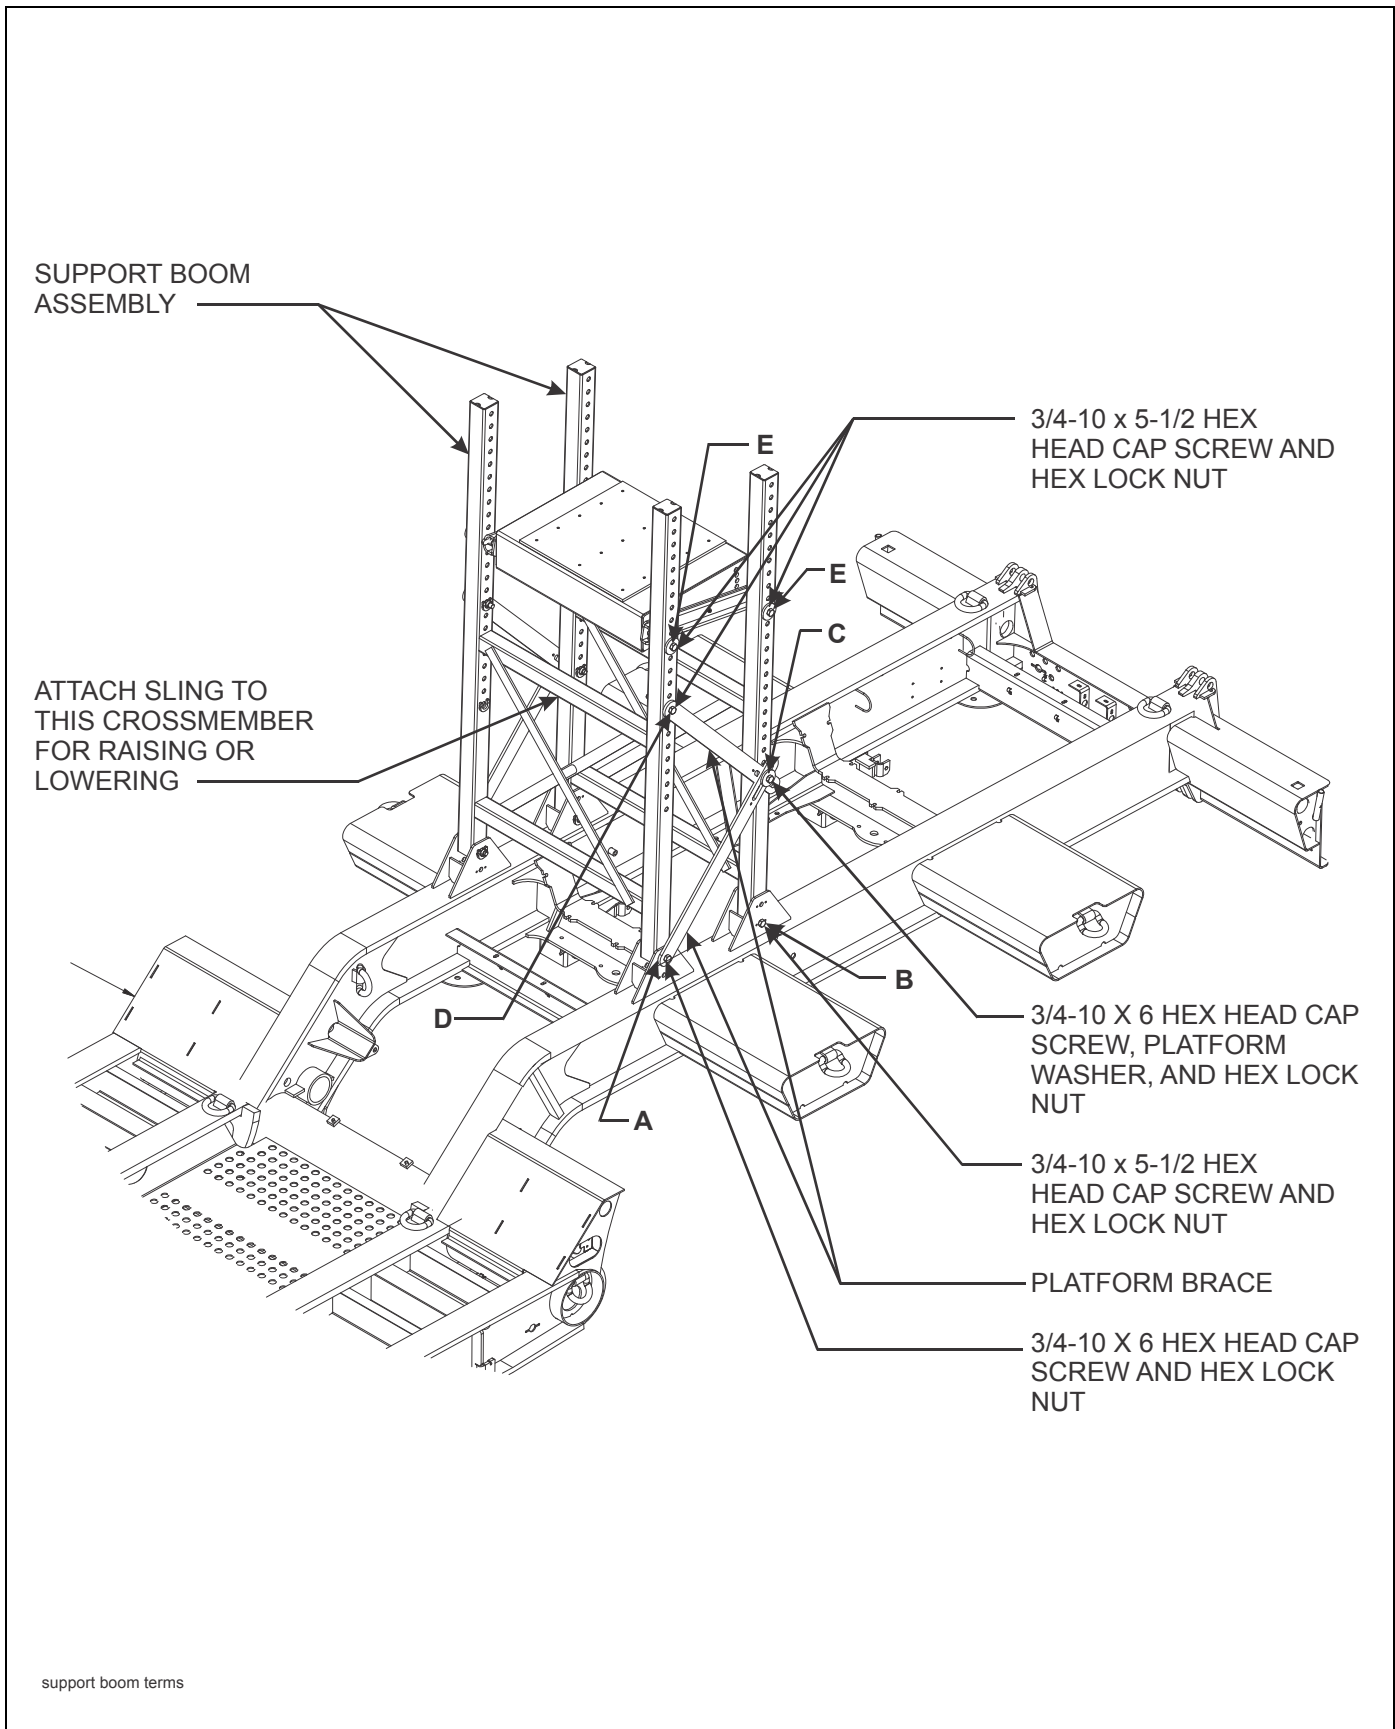

Figure 1-2: Support Boom Terminology
4. Loosen, but **do not remove** the following hardware (See Figure 1-2.)